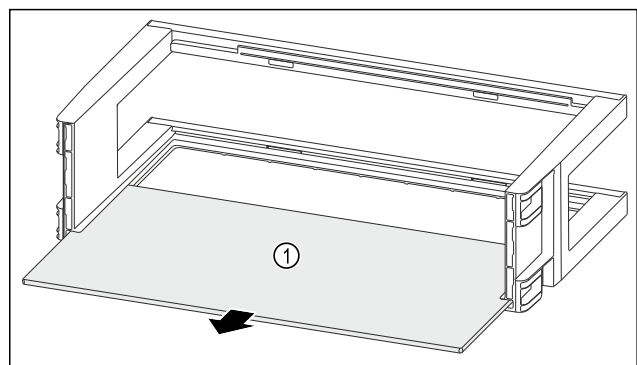

Fig. 141
- ▶ Remove the shelf Fig. 141 (1).